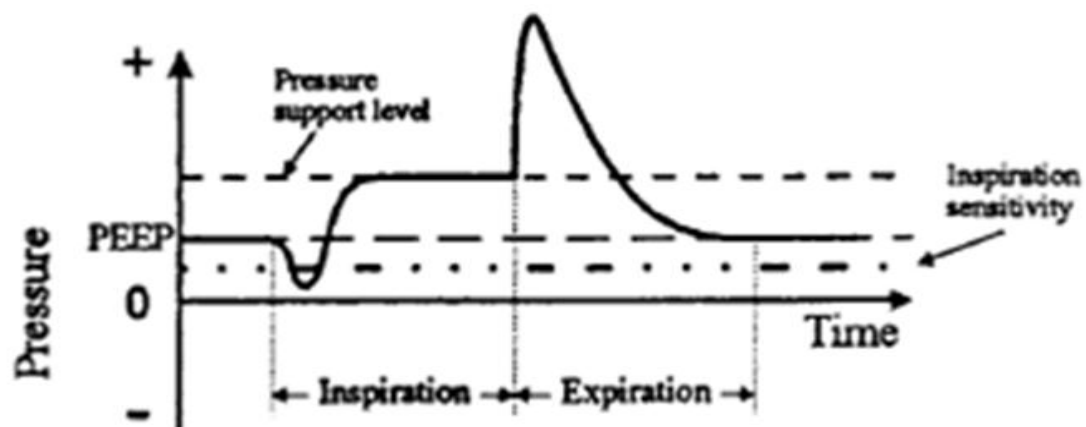

Figure 7, Airway pressure during a pressure support spontaneous breath delivery.
- Figure 7 shows a typical airway pressure waveform during the delivery of a pressure support breath. In this mode, when the patient's airway pressure drops below the therapist-set sensitivity line, the ventilator inspiratory breath delivery system raises the airway pressure to the **pressure support level** ($>PEEP$), selected by the therapist. The ventilator stops the flow of breathable gases when the patient starts to exhale and controls the exhalation valve to achieve the set PEEP level.